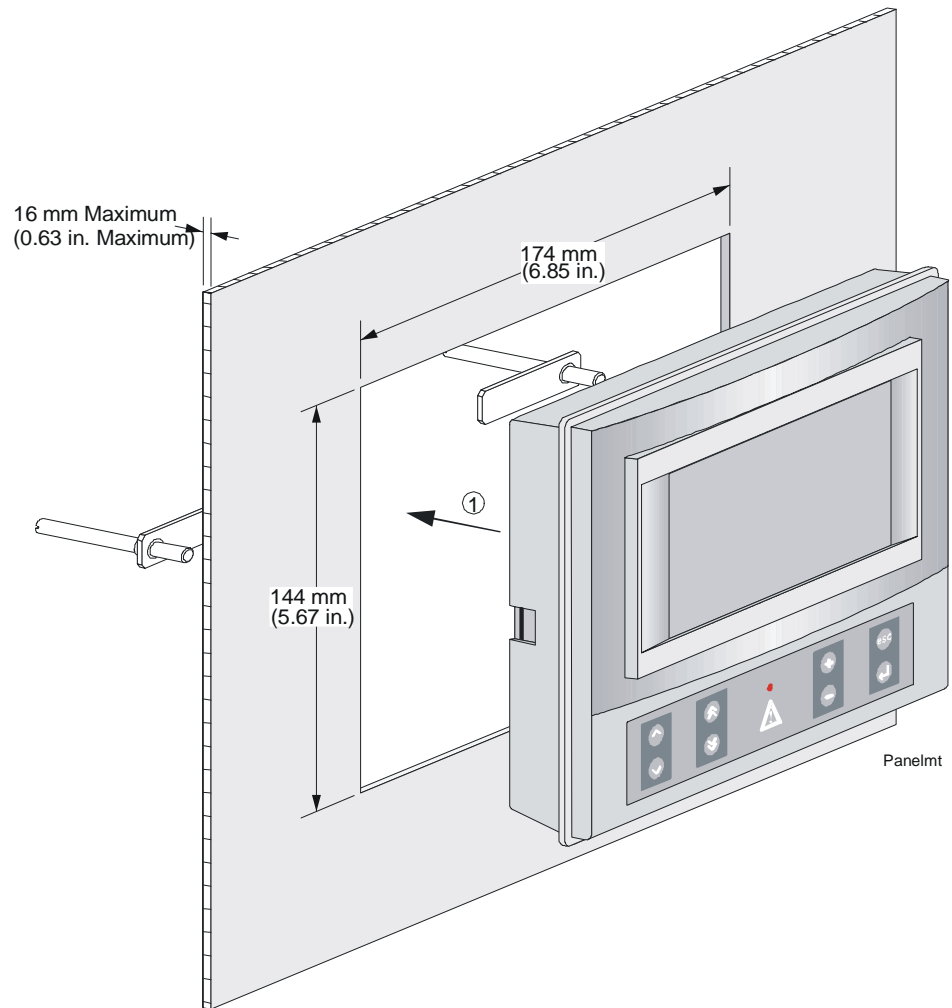

Figure 3-7: Panel Mounting Dimensions
1. Make an appropriate cutout in the panel or cabinet door using the dimensions shown in Figure 3-7 (note the maximum panel thickness shown in the figure).
2. Insert the DX LCD Display into the cutout, as indicated by ① in Figure 3-7.